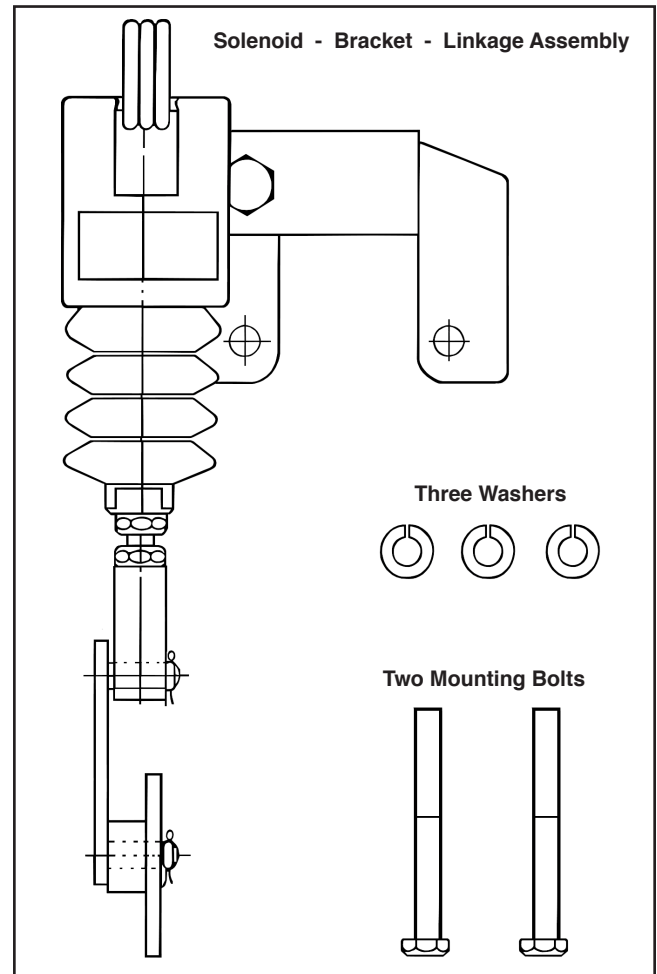

FIGURE 1: KIT CONTENTS
1. Refer to Figure 1 to verify contents of the kit.
3. Remove existing fuel lever by removing existing bolt, fuel lever, spring cover and torsion spring. Discard original fuel lever and torsion spring. Save the original bolt (12) and spring cover (13) for later use. Torsion spring **MUST** be removed.
4. Remove and discard the two upper governor housing bolts. These will be replaced during installation by new, longer bolts (6) and lockwashers (8) to ensure proper thread engagement.
- a. Place the solenoid/bracket/linkage assembly into position against the governor housing. Loosely attach utilizing new bolts (6) and lockwashers (8).
- b. Attach the new linkage assembly by installing original springcover (13), new fuel lever assembly (4), lockwasher (8) and original bolt (12). DO NOT reinstall torsion spring.